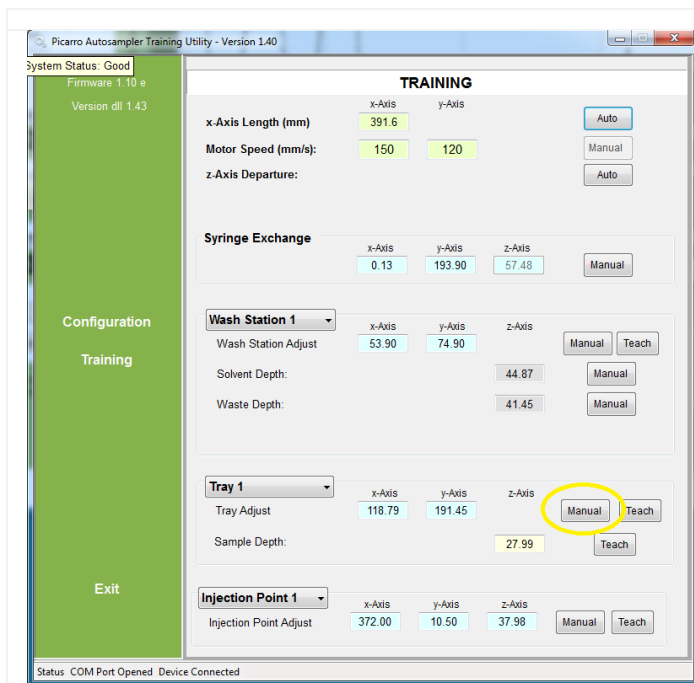

Figure 140. Select Manual for Tray Adjust.
STEP 19 | Select the “Manual” button for **Tray Adjust** to manually train the Autosampler to align with Vial 1 on the tray (**Figure 140**).